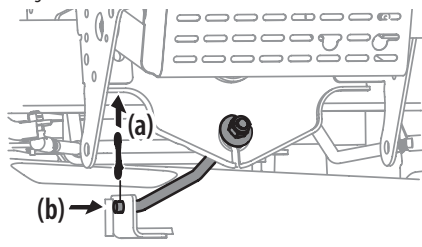

Figure 30
9. On 36", 42" and 46" decks, remove the bow-tie pin (a) securing the deck stabilizer rod (b) to the deck. Slide the deck lift rod from the mounting weldment on the deck as seen in Figure 30.